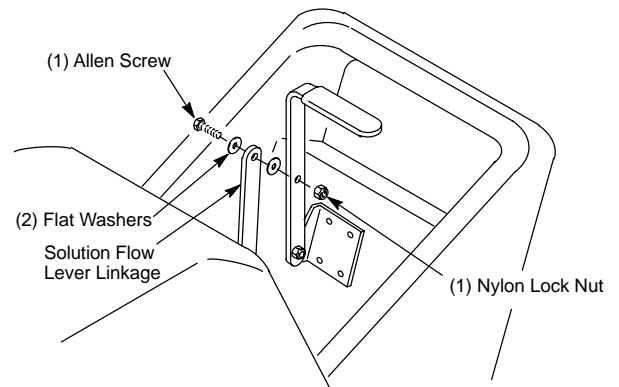

FIG. 2.
2. Align solution lever to linkage arm and connect with allen screw, (2) small flat washer and nylon lock nut. Use a 5/32" allen wrench and 7/16" wrench (Figure 2.).